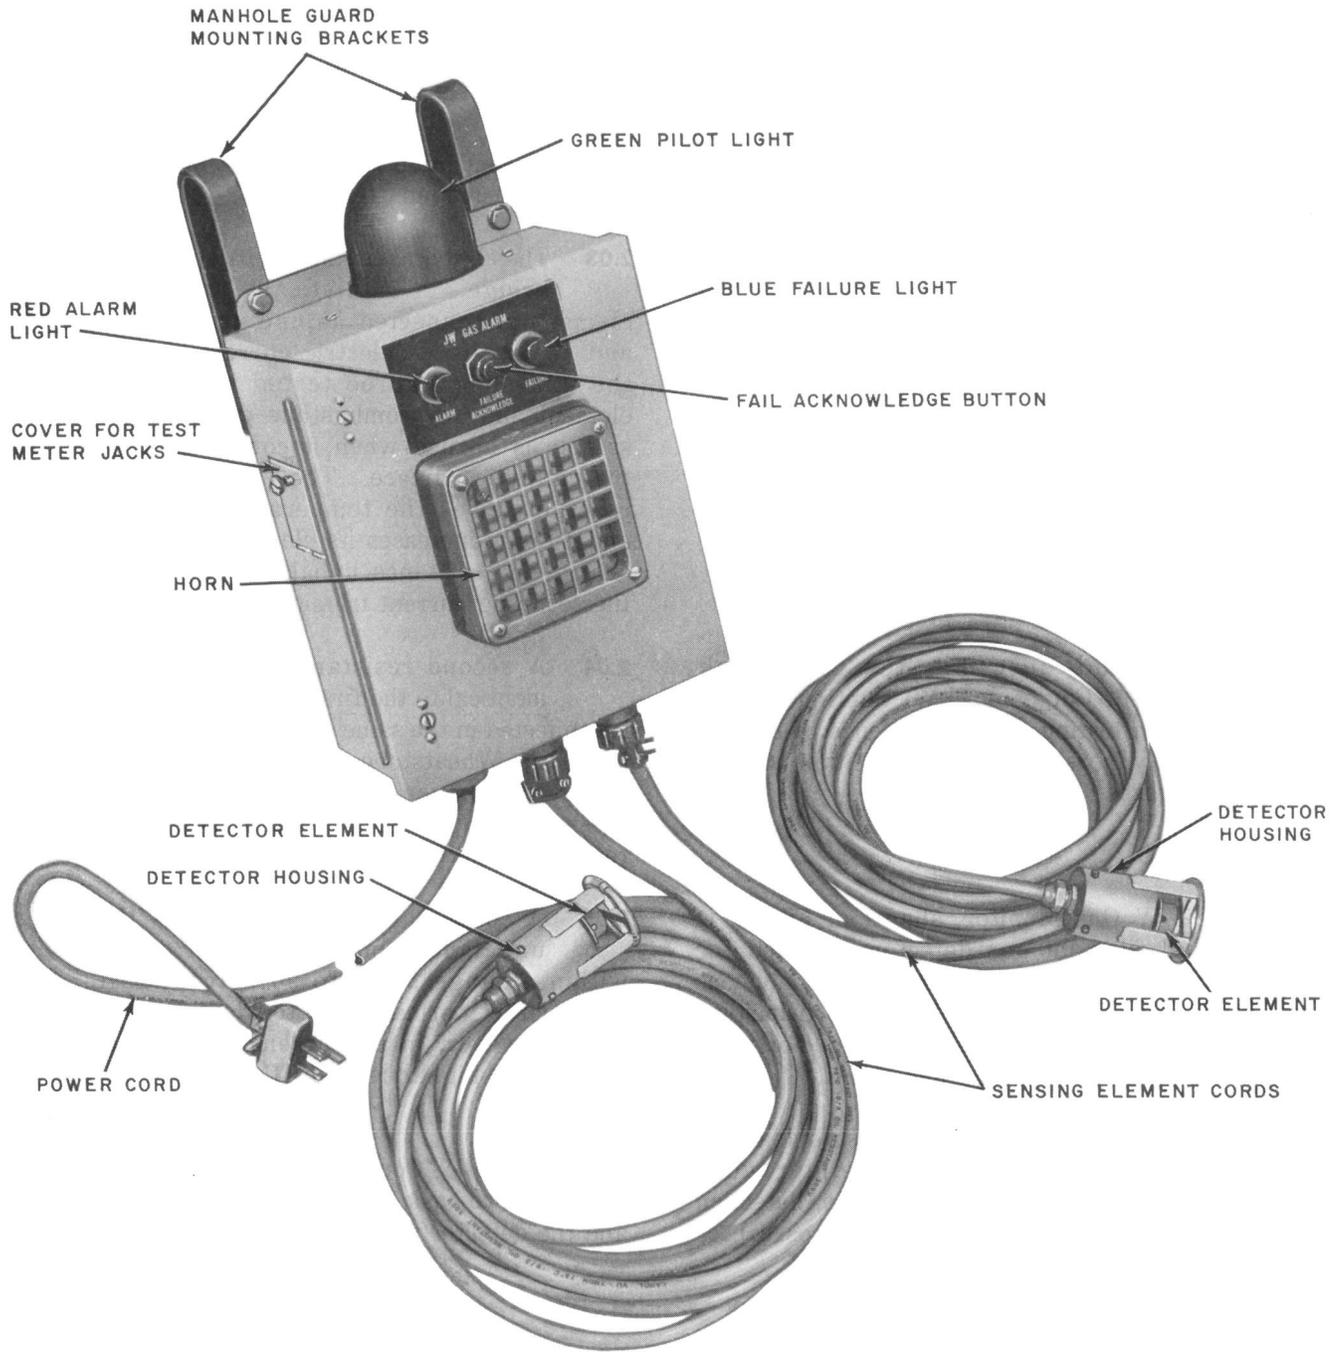

Fig. 1—Bacharach (JW) Continuous Gas Monitor
2.01 The J-W Gas Monitor, shown in Fig. 1, is a dual filament gas detector designed for continuously testing a manhole atmosphere. Continuous sampling is performed by applying the principles of diffusion and convection with the detector units operating directly in the areas under test.